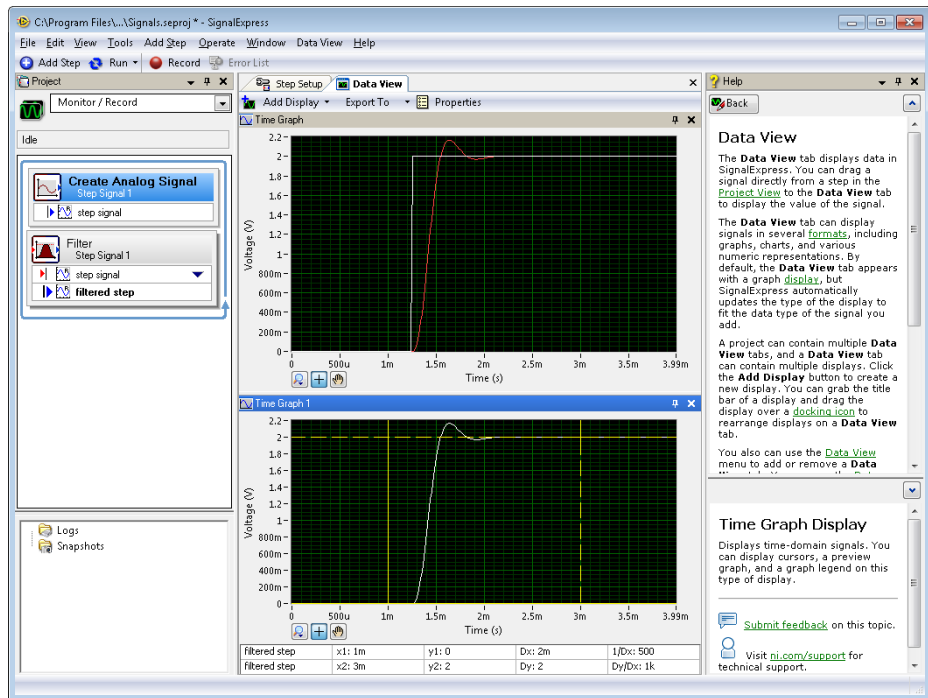

Figure 3-1. Signals.seproj
- Right-click the new display and select **Visible Items>Cursors** from the context menu to display two interactive cursors, as shown in Figure 3-1.